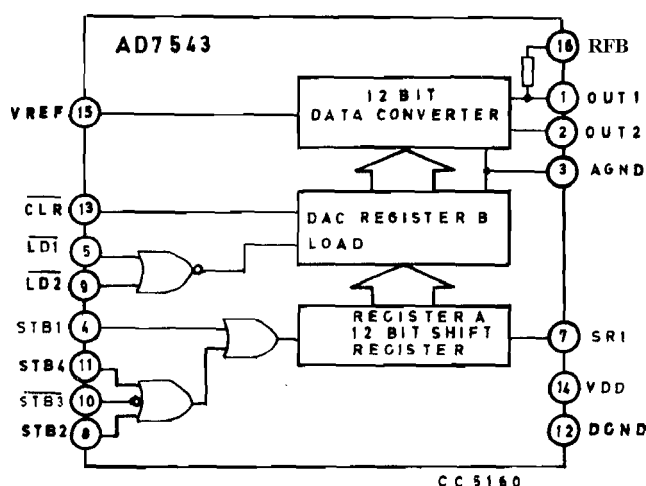

Fig. 5 7543 Serial V-A
31. Serial D-A's. The Gain D-A (sheet J) Zero D-A and Recorder D-A (both sheet 2) are all based on the same type of multiplying D-A converter, the AD 7543. This device is special in that data is loaded into it serially (see Fig. 5). The DAC's logic circuitry consists of a 12-bit serial-in parallel-out shift register and a 12-bit DAG input register. Serial data at the SRI pin is clocked into the shift register on the trailing edge of STB3. Once the shift register is full its contents are loaded into the DAC input register by sending LDI low. These control signals are derived on the processor p.c.b. AA02.